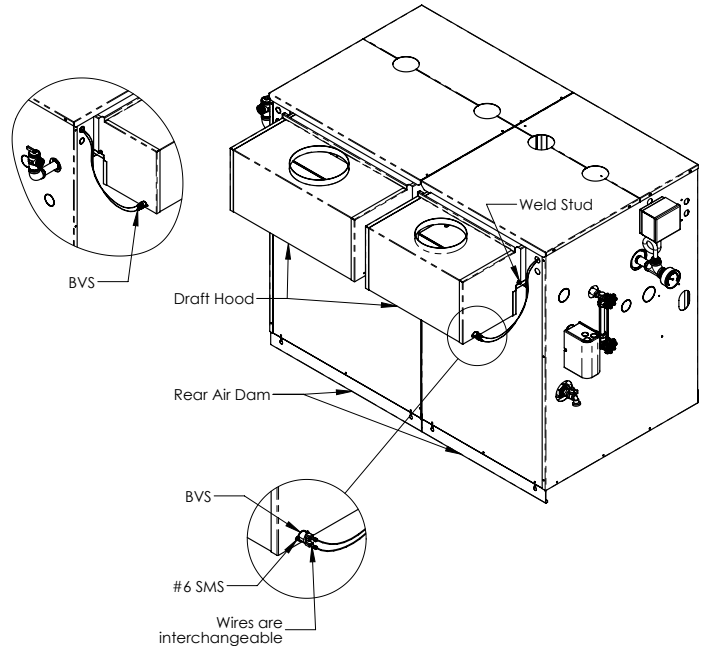

Figure 6-5: Typical Vent Installation STMX350 through STMX550
1. Install rear air dams. Hang air dams on screws located at back of boiler. See Figure 6-5 for reference.
- A. Attached one BVS to each diverter using supplied #6 sheet metal screws. See Figure 6-5.